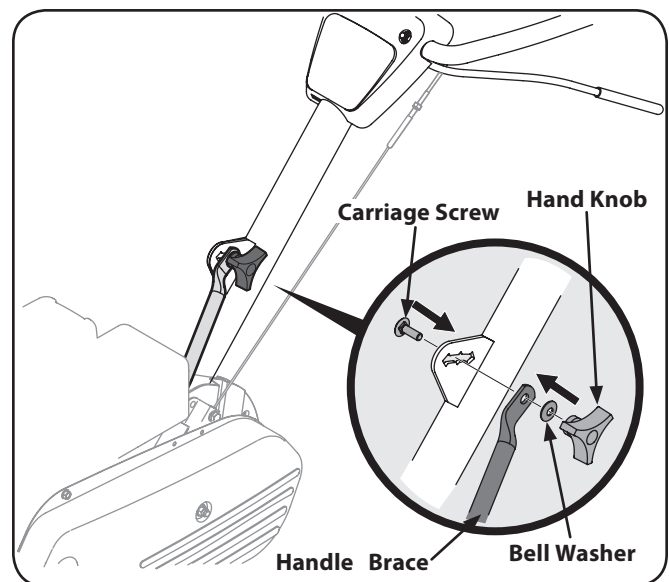

Figure 3-4
6. Tighten the bolt securely after securing the handle brace as seen in Figure 3-4.
8. Insert the carriage screw through the bracket on the handle, bell washer, handle brace and into the hand knob. See Figure 3-4.
9. Select one of the three handle height positions (three notches in the welded handle bracket) and tighten the hand knob to secure the handle in the desired position. See Fig. 3-4. Return to the lower handle and tighten the hex bolt securely.